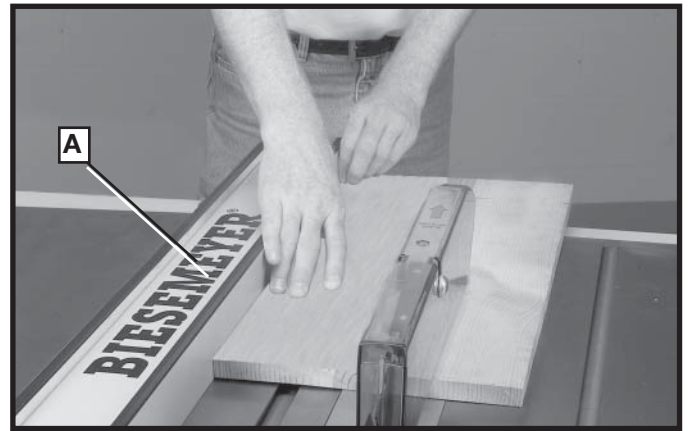

Fig. S8
Ripping, as shown in Fig. S8, is cutting lengthwise through a board. The rip fence (A) is used to position and guide the work. One edge of the work rides against the rip fence while the flat side of the board rests on the table.
1. Before starting the cut, raise the blade so it is about 1/8" (3.2mm) higher than the top of the workpiece. Start the motor and advance the work holding it down and against the fence. **Never** stand in the line of the saw cut when ripping. When the rip width is 6 inches or wider, hold the work with both hands and push it along the fence and into the saw blade (Fig. S8). Feed force when ripping should always be applied between the saw blade and the fence. Never pull the workpiece from the back of the saw. The work should then be fed through the saw blade with the right hand. Only use the left hand to guide the workpiece against the fence, and remove the left hand from the work about 12 inches in front of the blade. Do not feed the workpiece with the left hand. Continue to feed material with right hand, keeping to the right of the path of the blade. After the cut is complete, use a push stick to feed cut-off piece past the blade.